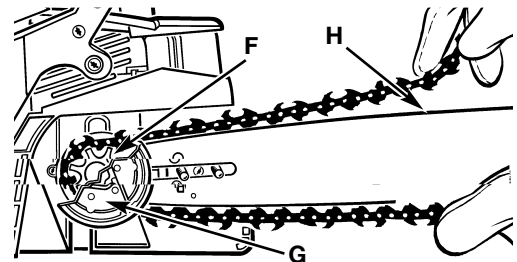

Fig. 25
2. Slip the chain around the sprocket (F) behind the clutch (G). Make sure the links fit between the sprocket teeth (Fig. 25).
4. Guide the drive links into the groove (H) and around the end of the bar (Fig. 25).